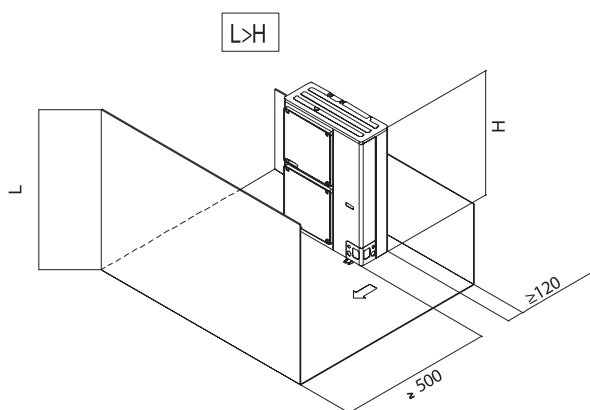

Figure 11
a. Single unit installation (see Figure 11)